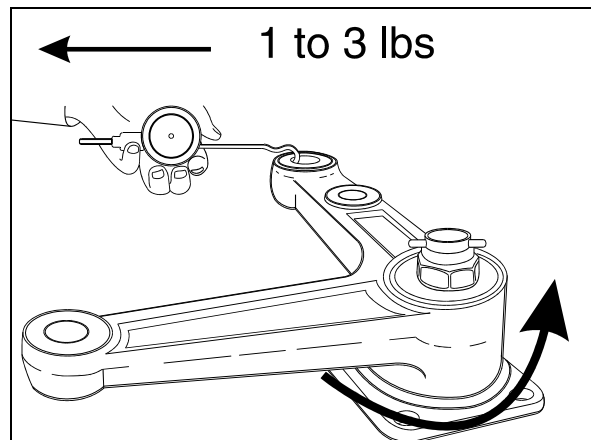

FIGURE 20: BELL CRANK
6. Unscrew nut until bell crank or idler arm starts to turn by the application of 1 to 3 pounds load (Fig. 20).
7. Check for loose bearings by applying an up and down load on bell crank or idler lever (Fig. 20). The lever is not supposed to move in the vertical axis direction.